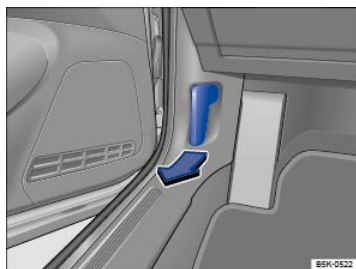

Fig. 213 In the footwell on the driver side: Inside engine hood release lever.
- Before you open the hood, make sure that the windshield wiper arms are resting on the windshield ⇒ ①.
- Open the driver door and pull the inside hood release lever in the direction of the arrow ⇒ Fig. 213. The engine hood is released from its latch by a spring ⇒